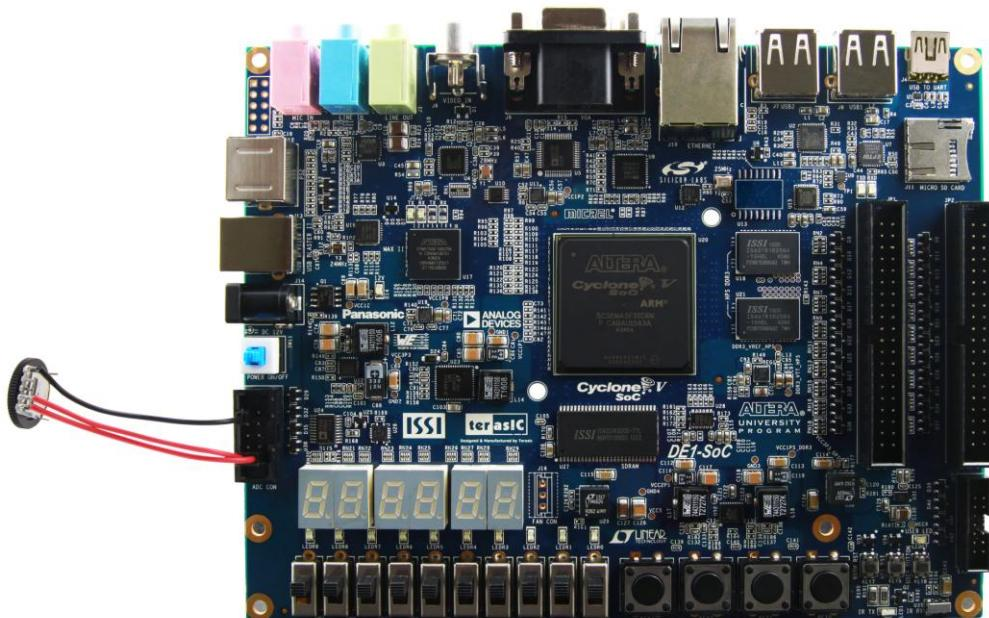

Figure 5-23 Hardware setup for the ADC reading demonstration
- Connect the trimmer to corresponding ADC channel on the 2x5 header, as shown in Figure 5-23, as well as the +5V and GND signals. The setup shown above is connected to ADC channel 0.